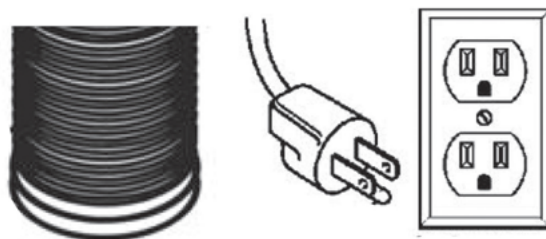

Figure 4
6. The hood comes with a grounded 3-prong plug that must be plugged into a dedicated 15-amp circuit. The cord is 36" (914 mm) long. *Figure 4*